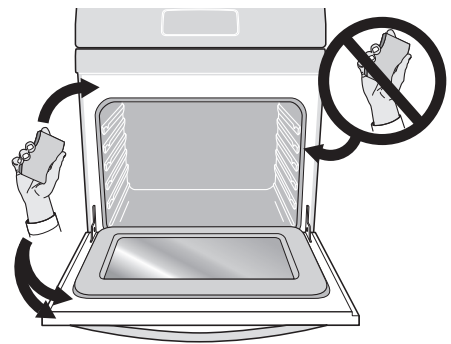

Figure 23: Clean around the oven door gasket
- Do not clean the oven door gasket (Figure 23). The woven material of the oven door gasket is essential for a good seal. Care should be taken not to rub, damage, or remove the gasket. Do not use any cleaning materials on the oven door gasket. Doing so could cause damage.
- Clean any soil from the oven frame, the door liner outside the oven door gasket, and the small area at the front center of the oven bottom. These areas heat sufficiently to burn soil on. Clean with soap and water. These areas are shown in white (Figure 23).